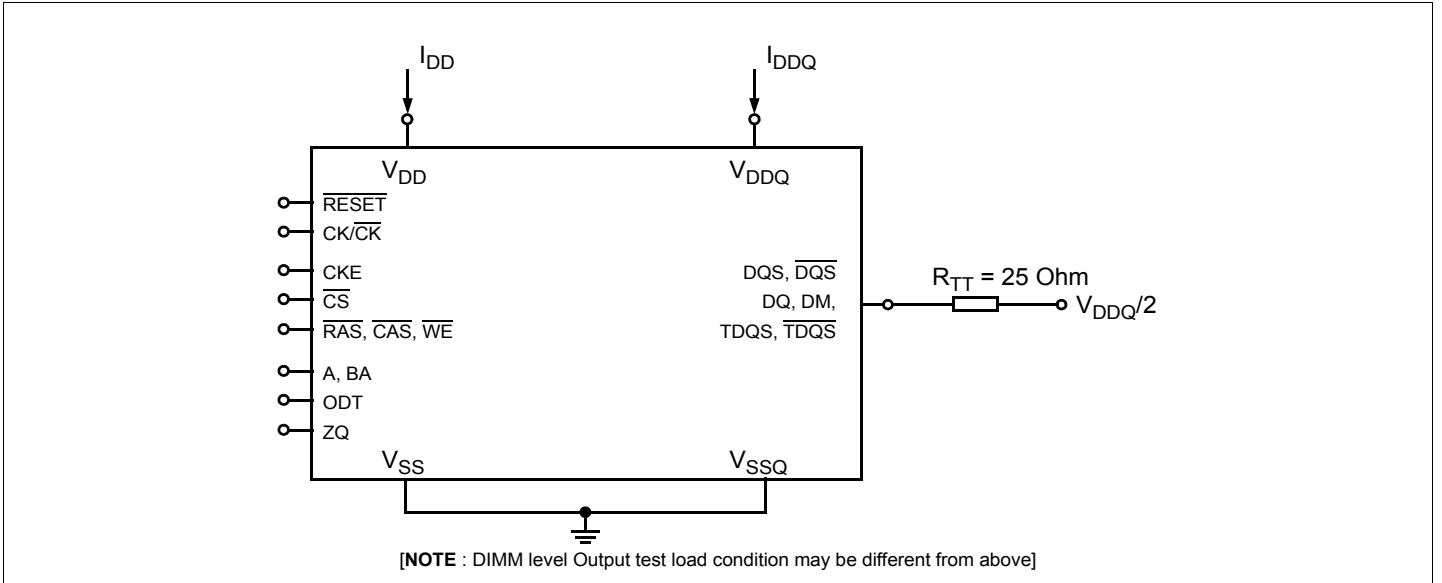

Figure 20. Measurement Setup and Test Load for IDD and IDDQ Measurements
**Attention** : IDDQ values cannot be directly used to calculate IO power of the DDR3 SDRAM. They can be used to support correlation of simulated IO power to actual IO power as outlined in Figure 20. In DRAM module application, IDDQ cannot be measured separately since  $V_{DD}$  and  $V_{DDQ}$  are using one merged-power layer in Module PCB.